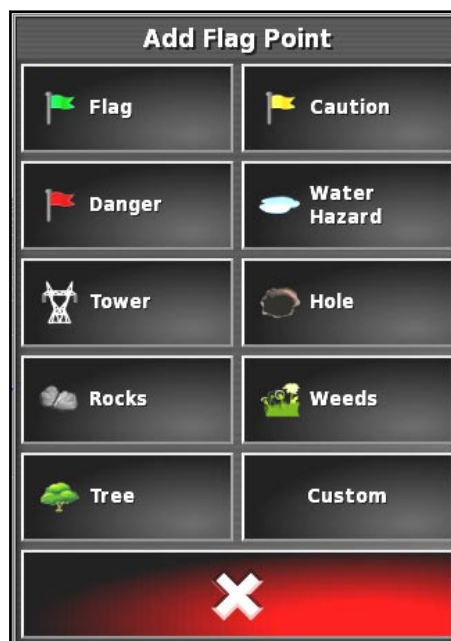

Figure 9.11 - Add Flag Point Menu
3. To flag the obstacle, choose a flag symbol to be placed at that spot on the map, refer to *Figure 9.11*.